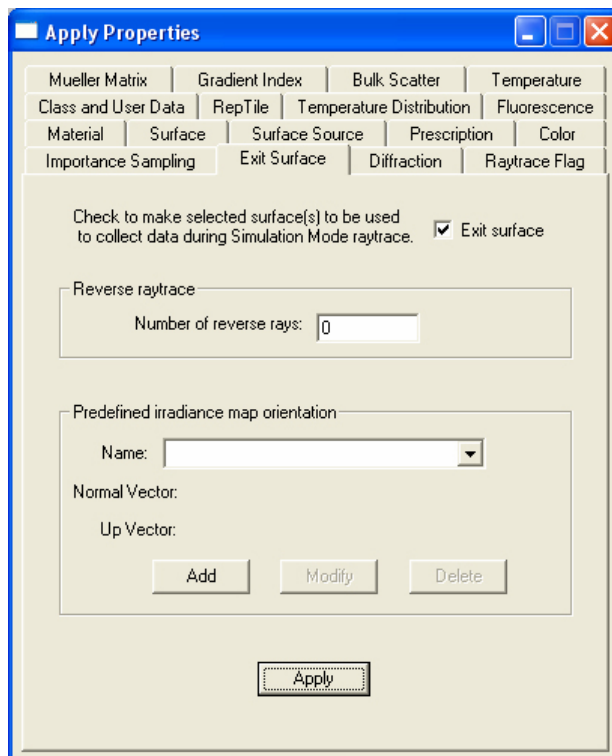

Figure 18. Setting of Exit Surface for Screen &gt; Observation.
13. Enter the parameters as shown in Fig. 18,